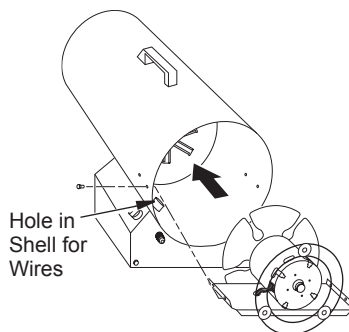

Figure 7 - Replacing Motor, Motor Mount and Fan Guard into Heater
14. Carefully route motor wires through hole in shell (see Figure 7). Place motor, motor mount and fan guard into rear of heater shell.